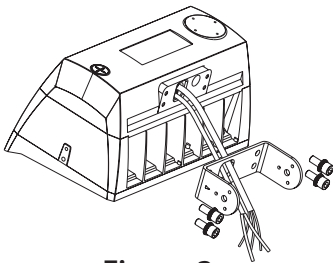

Figure 3
Step 1: Put the input wire of the light across the bracket. (Figure 3)